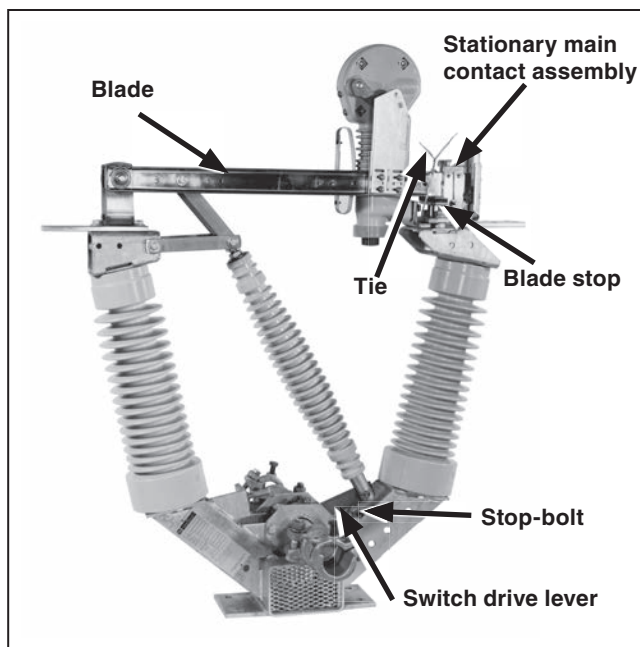

Figure 7. Tying the switch blade to the stationary main contact assembly.
- STEP 6.** To minimize time-consuming final adjustments, make sure each switch pole is fully closed with blades against their blade stops and the switch drive lever within $\frac{1}{16}$ -inch (2 mm) of the closed stop-bolt. Tie the switch blades to their stationary main contact assemblies. See Figure 7.